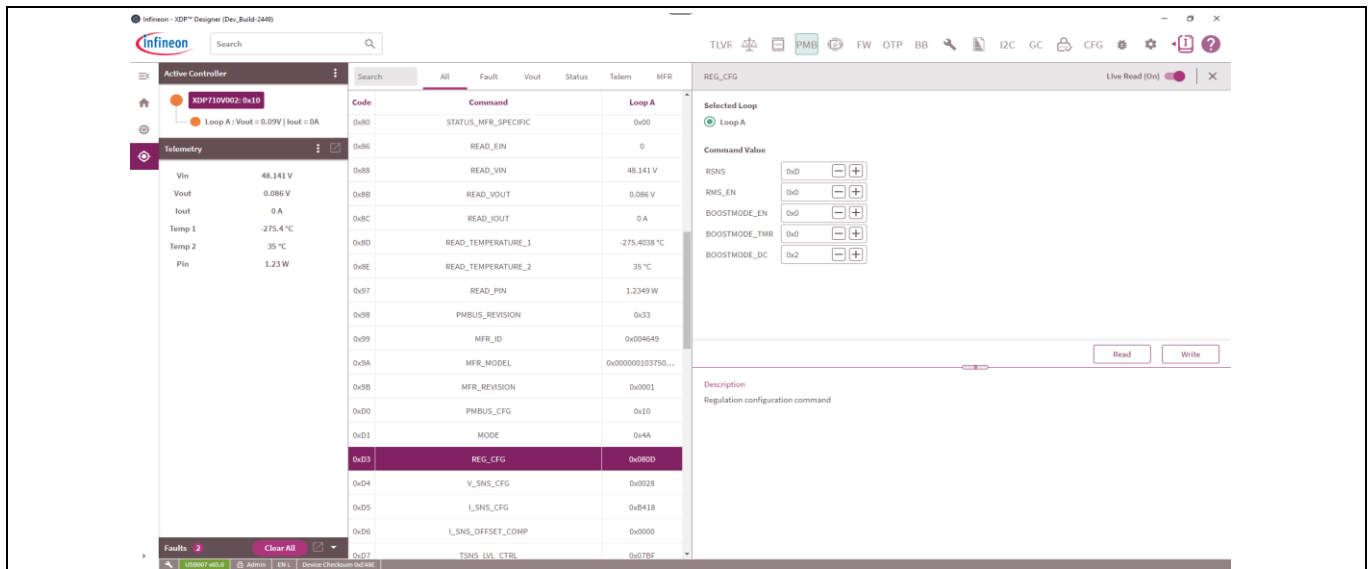

Figure 27 R_{sns} selection
- The board has R_{sns} **1 mΩ** populated. To select this resistor, modify the R_{sns} bit to 0xD, and then click **Write** as shown in Figure 27.